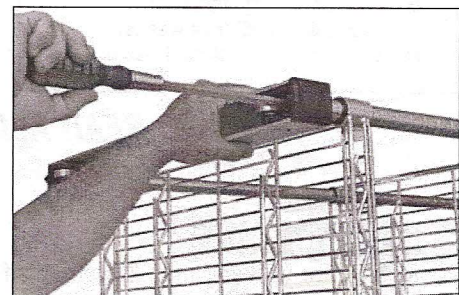
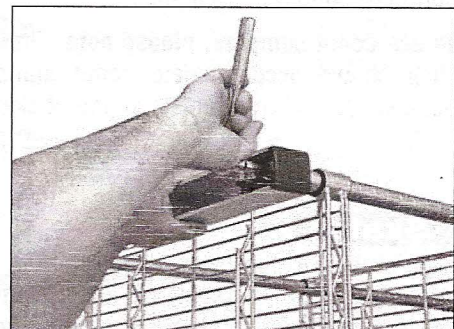
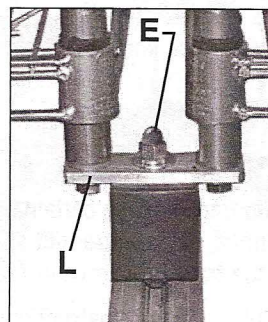
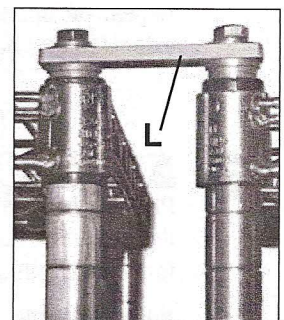

figure 1
figure 2
figure 3
figure 3a
Place spacer(M) on top of the skate. Align skates(A) top holes with the hole in the spacer and the bottom of post. Use a 3/8" flat washer(B) with lock washer(C) and a 3/8" - 16x2" bolt(D2) to screw through skate bottom into post plug. Use a flat head screw driver to start assembly as shown in figure 1. Repeat on opposite side. Tighten bolts with a ratchet, small extension and 3/8" socket as shown in figure 2.
Place center tie bar(L) on top of the skate. Align skates(A) top holes with the middle hole in the center tie bar. See "for End Posts" sequence above. Use two 3/8" flat washers(B) with lock washers(C) and a 3/8"-16x1 1/4" bolt(D1.25) and acorn nut(E) to attach center tie bar(L) as shown in figure 3. Use a flat head screw driver to start assembly. Repeat on opposite side. Attach wire shelving units to sides of center tie bar on skate (see "Double-Deep Unit" on back page). Use a 3/8" flat washer(B) with lock washer(C) and 3/8"-16x2 bolt(D2) to screw through center tie bar and into the bottom of the post as shown in figure 3. Tighten bolts with a ratchet, small extension and 3/8" socket as shown in figure 2. Place center tie bar on top of posts and secure using a 3/8" flat washer(B) with lock washer(C) and 3/8"-16x2 bolt(D2) as shown in figure 3a.